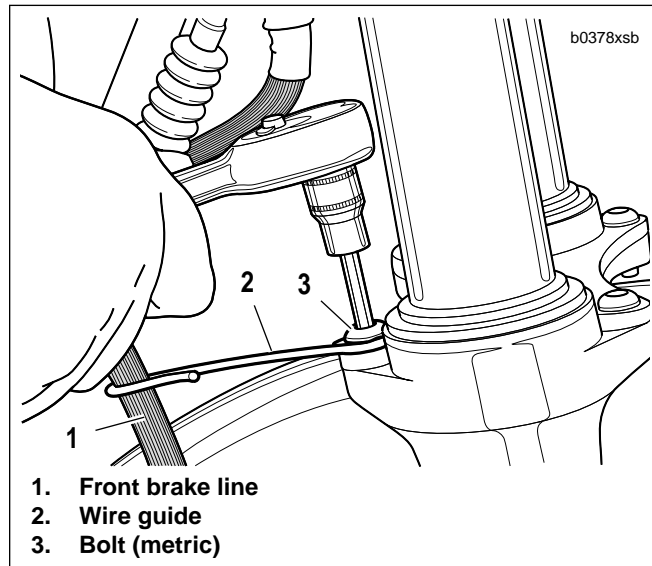

Figure 1. Removing Wire Guide
- See Figure 1. If vehicle has a wire guide (2) installed around the front brake line (1), remove bolt (3) (metric).
- Apply two drops of LOCTITE THREADLOCKER 242 (blue) to threads of bolt (3) (metric). Install bolt and tighten to 10-12 ft-lbs (13.6-16.3 Nm).